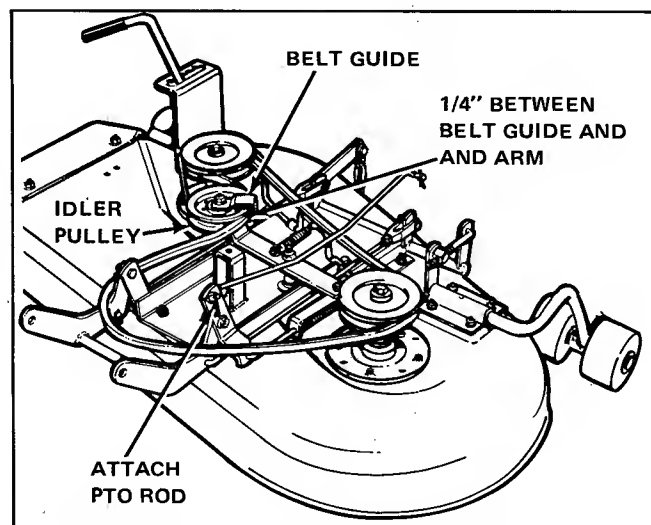

Figure 50. Installing PTO and Belt
6. Install the PTO rod on the PTO arm with a cotter pin (see figure 50).
7. Place the mower drive belt on the mower arbors and idler pulley as shown in figure 50. To place the drive belt in the idler pulley, loosen the nut holding on the idler pulley and belt guide so that the guide can be shifted to allow space to slide belt on idler pulley.